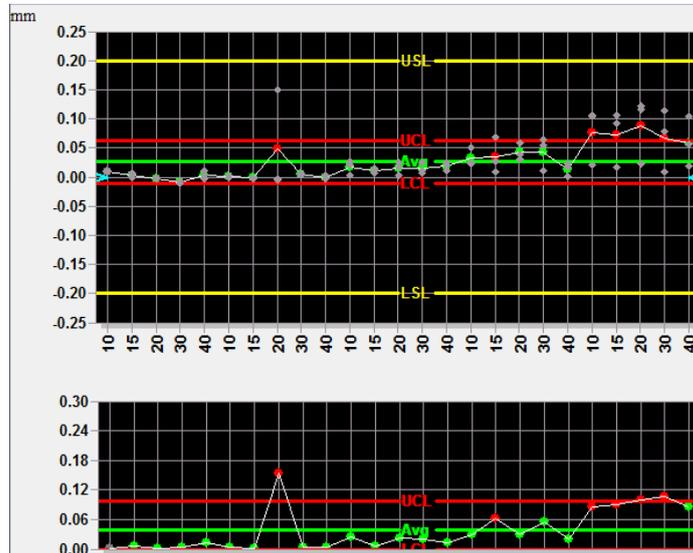

Figure 5: Calibration results 12171 caliper
- We have various out of controls on the average and range chart (see figure 5)